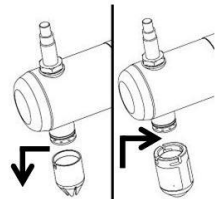

fig. 3
- Change garnishing nozzle against cleaning nozzle (tool kit/pre order) (fig. 3)